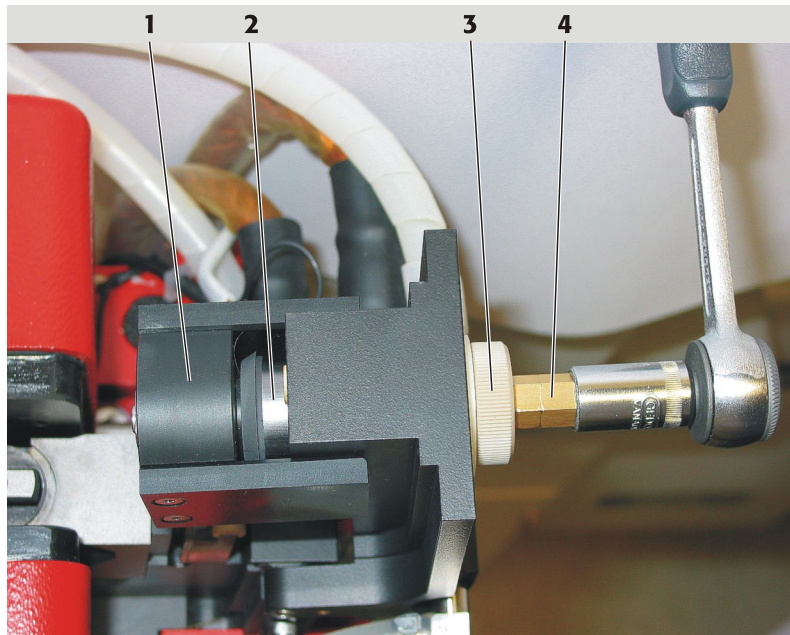

Fig. 55 Electrode with insertion device, mounted on the jaw
2. Screw in the flange nut (3 in Fig. 55) of the insertion tool as far as the stop in the furnace jaw.